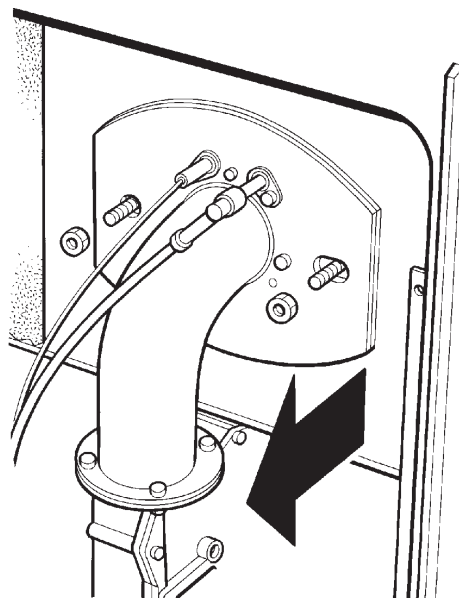

Fig. 3A
5. Unscrew burner locking nuts (2). (See Fig. 3A)